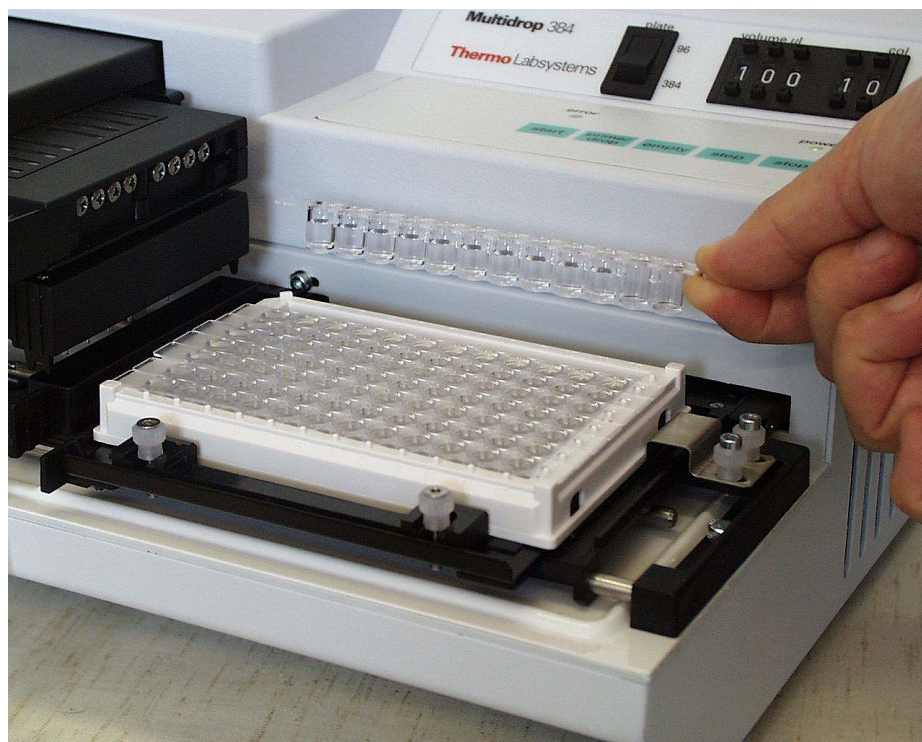

Fig. 7.9 Removing the filled microstrip to be weighed
11. Weigh the filled microstrip (*Fig. 7.9*). The balance should now read 1000 mg \pm 20 mg.